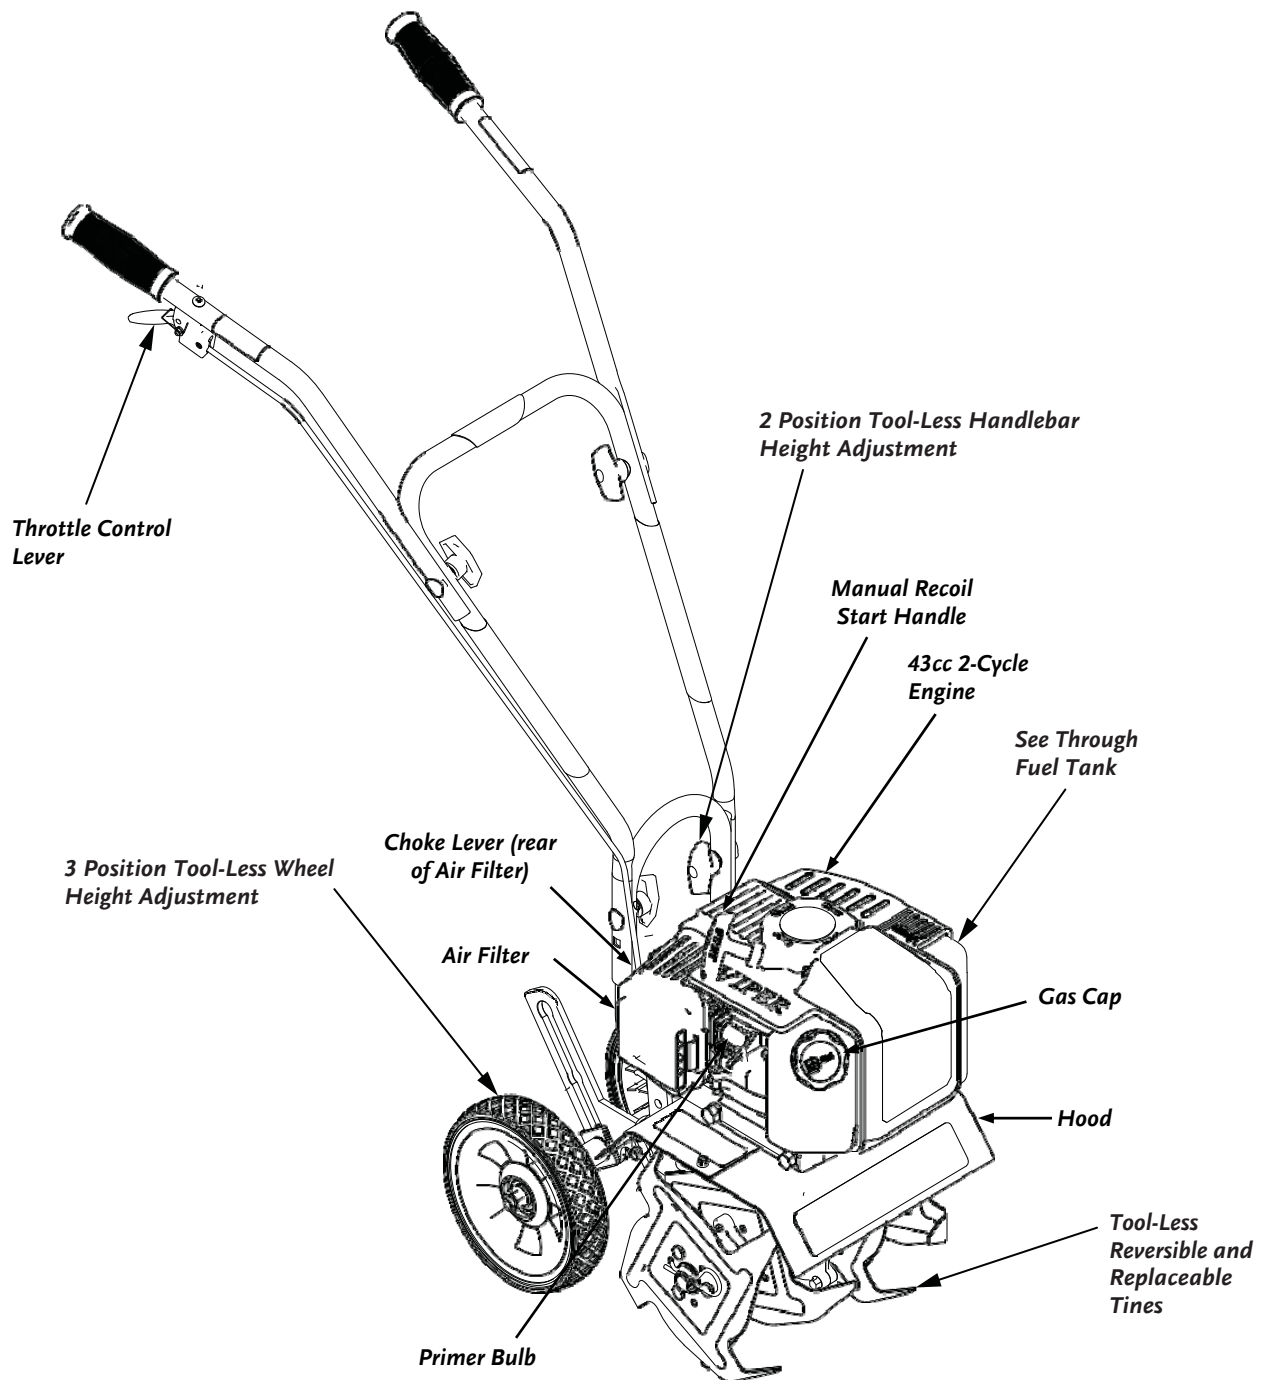

Figure 1
This chapter outlines a few simple steps you will need to follow to set up your new machine before you use it. It may be helpful to familiarize yourself with the controls and features on your new machine by reviewing **Figure 1** on the following page before beginning the steps outlined in this chapter. **For technical assistance, please visit our website at www.DRpower.com and one of our Technical Support Representatives will be happy to help you.**
NOTE: The model shown in Figure 1 may look slightly different from your machine.
1. Push the Primer Bulb in (**Figure 1** on page 7) and then release until it returns to its original position. Repeat this process until the Primer Hose is full of fuel.